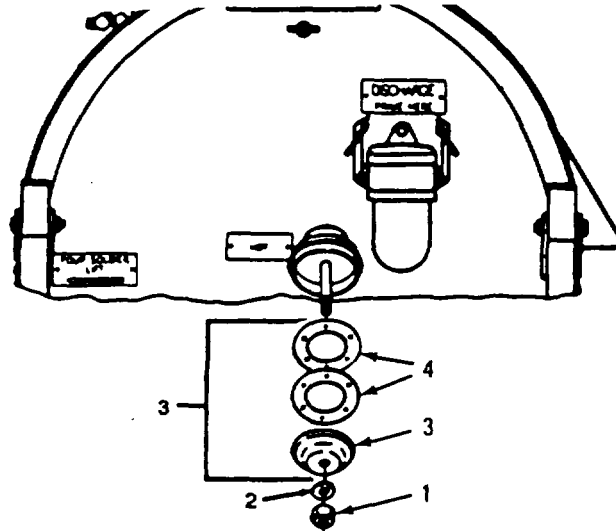

Figure 4-23. Cleaning Spark Arrestor
a. Removal: (Refer to Figure 4-23).
- (1) Remove nut (1) and washer (2).
- (2) Remove spark arrestor end cap (3) and two baffles (4) from shaft.